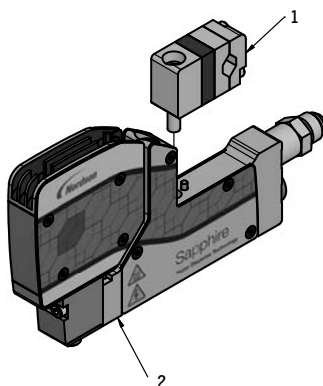

Figure 7: Removing the clamp assembly
1. Refer to Figure 7. Remove the clamp assembly from the applicator using a M5 hex wrench.